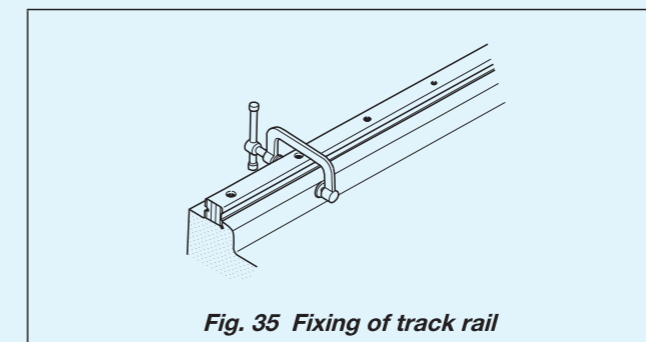

Fig. 35 Fixing of track rail
- Align the reference mounting surfaces of track rails I and II with the reference mounting surfaces of the bed correctly, stick them by using small type vise, and tighten the fixing bolts at the same position (see Fig. 35).